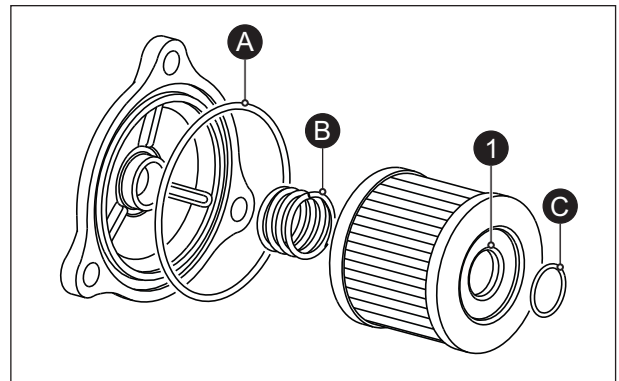

Fig. 2.36
While reassembling, ensure to assemble the 'O' rings (A & C) and spring oil filter (B). (Fig. 2.36)
Locate the seal end (1) of the filter towards crankshaft. (Fig. 2.36)